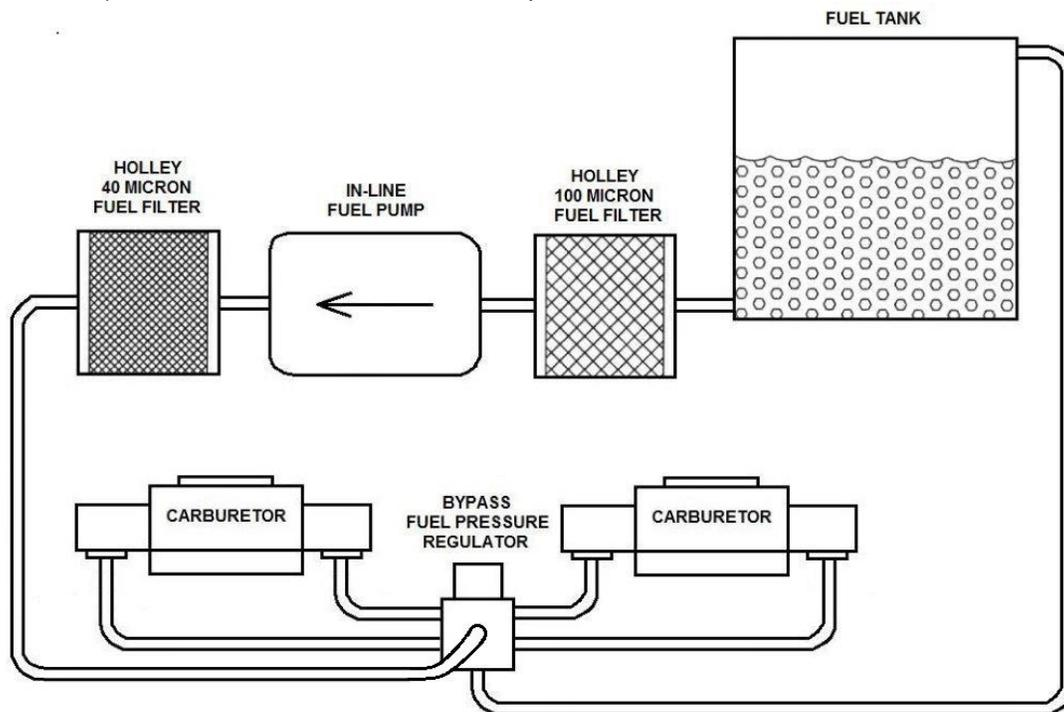

Figure 2a (Carburetor)
- Connect the fuel line from the outlet of the pump to the inlet of the post fuel filter and then from the fuel filter to the regulator (Figures 2a & 2b). All fuel line connections must be leakproof.